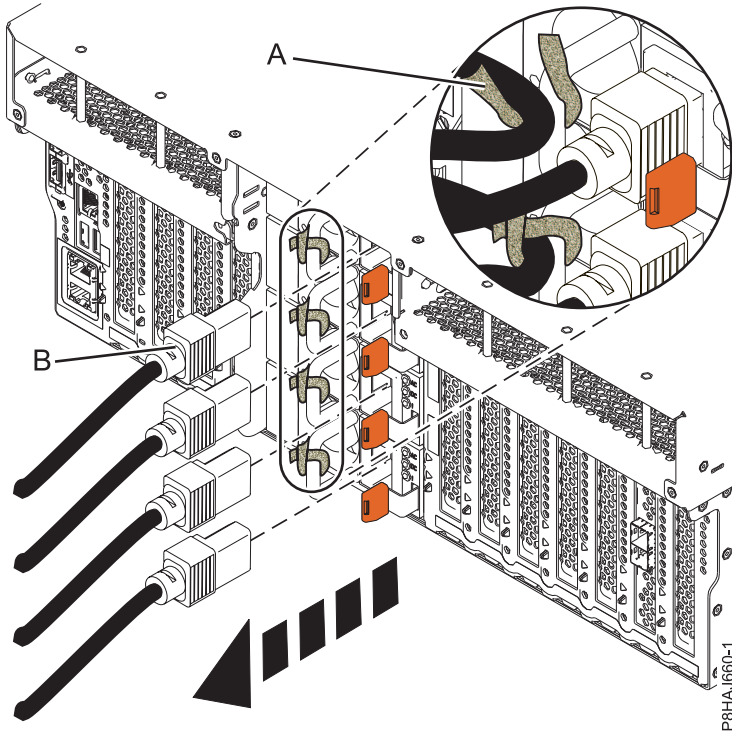
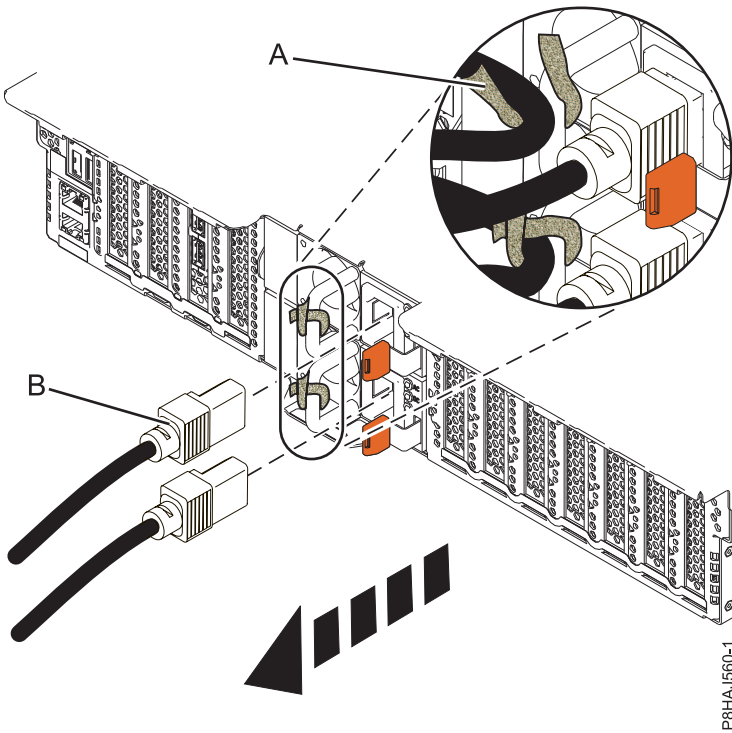
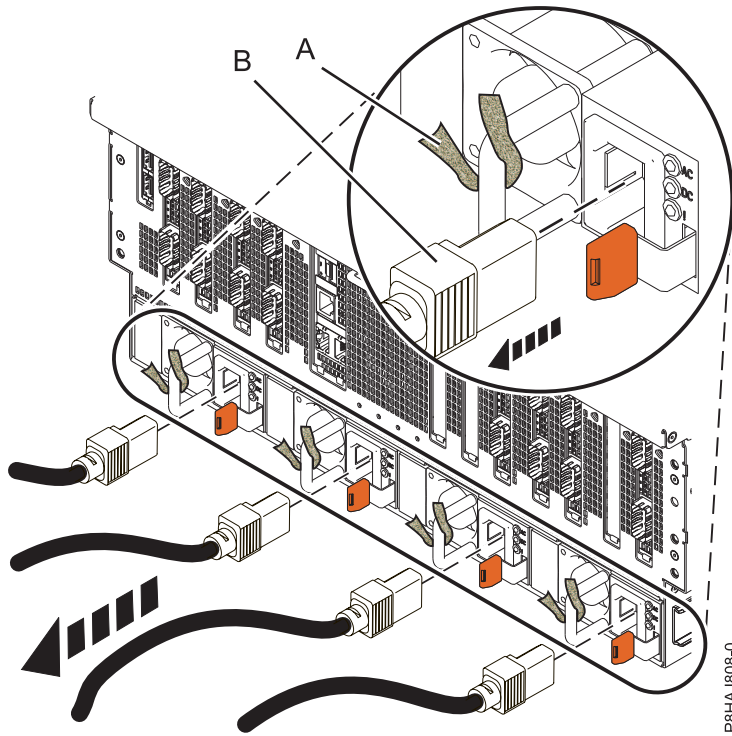

Figure 86. Removing the power cords from an 8247-42L, 8286-41A, or 8286-42A system
Figure 87. Removing the power cords from an 5148-21L, 5148-22L, 8247-21L, 8247-22L, 8284-21A, or 8284-22A system
Figure 88. Removing the power cords from an 8408-44E or 8408-E8E system
3. Disconnect the power cords (**B**) from the system unit. See Figure 86 on page 116, Figure 87 on page 116, or Figure 88 on page 117 or depending on the type of your system.